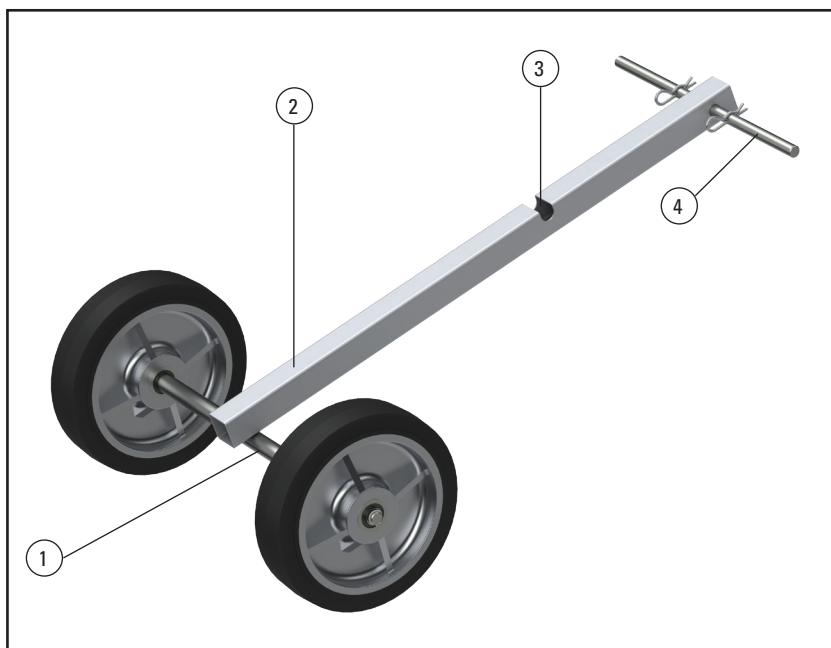

Fig. 18 Empty Flex-Lifter™ Cart (optional)
Remove the handlebar from the tube of the wheel frame (see Figure 18). To do this, remove one of the cotter pins and pull the handlebar out of the tube.
- 5 Insert the handlebar of the cart into the intended hole the tube on the wheel frame, and secure it with the cotter pin (see Figure 18, Pos. 4)